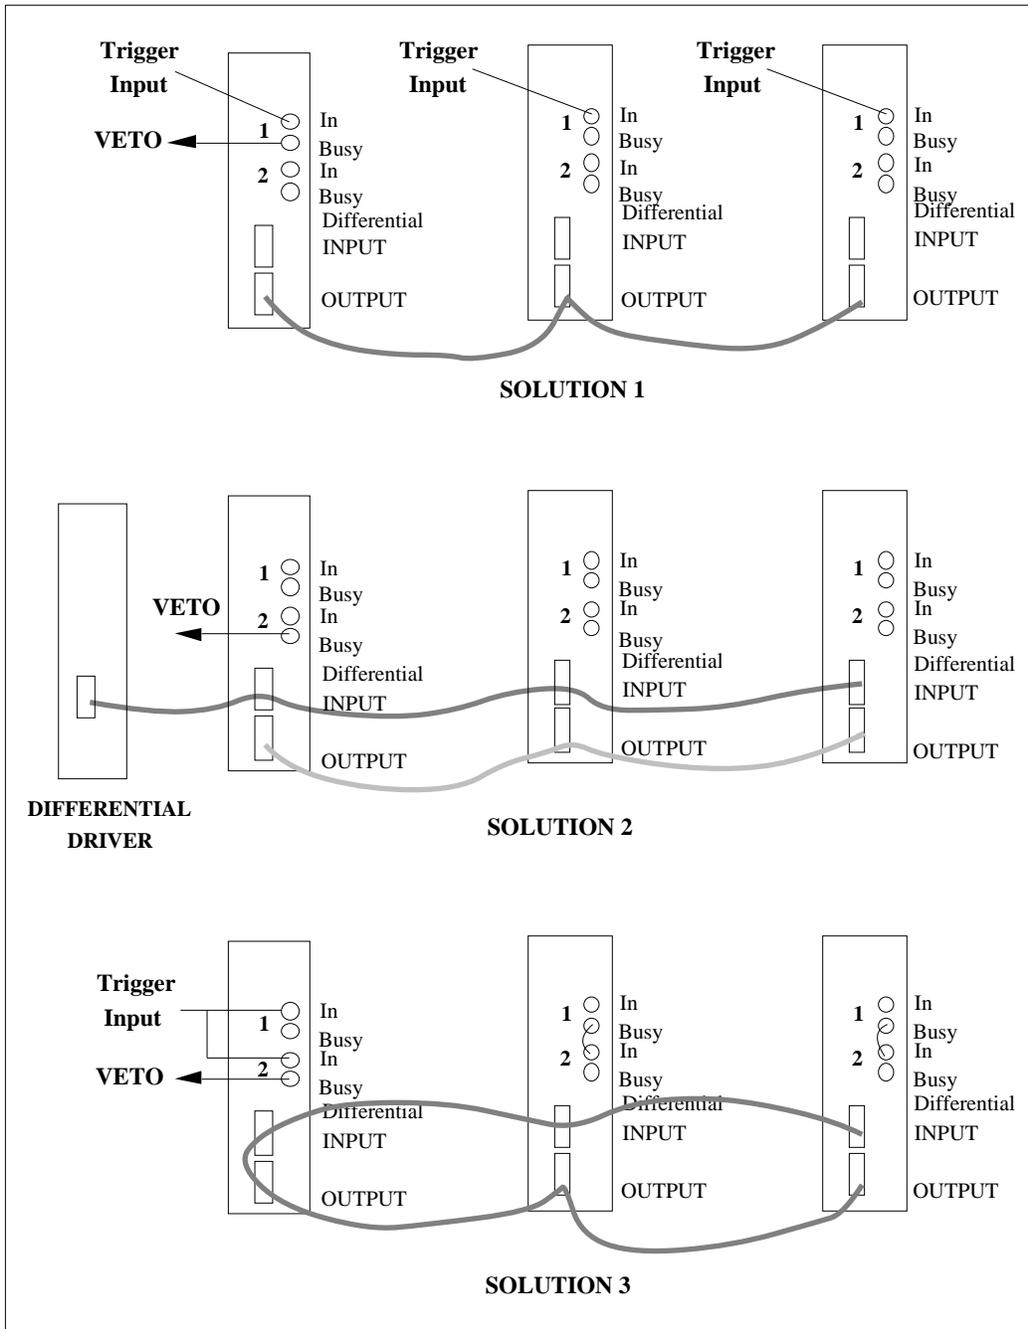

Fig 6
- ② One can do the same thing but uses a differential driver to distribute the Trigger. In this case, one has to connect all the differential Trigger input together with a four twisted pair flat cable equipped with female 3M 8-pin connectors. One possible driver is the MODEL V64 from CAEN, used in TTL mode.
- ③ One can use a single flat cable to connect together all the differential Trigger inputs and differential BUSY outputs (as shown on figure 6). Only the last CORBO needs termination resistors. All the others must be removed.